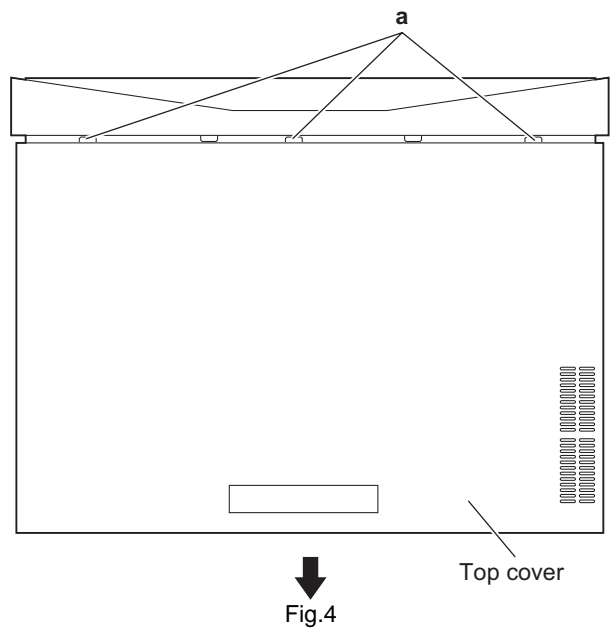

Fig.4
- (3) Lift the rear section of the top cover, slide the top cover slightly in the direction of the arrow. (See Fig.4.)
- (4) Disengage the engagement sections a of the top cover from the main body. (See Fig.4.)